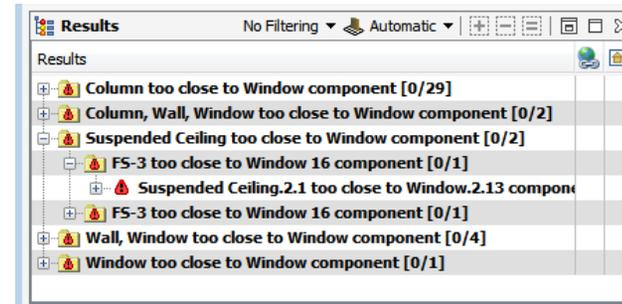

Figure 61 Slab too close to windows
- (2) Be sure that **Automatic** visualization is set back on and open the "Suspended Slab too Close to Window Component" category in the
**Results Tree Table** and select the issue group "FS-3 too close to window 16 component" (see Figure 61).